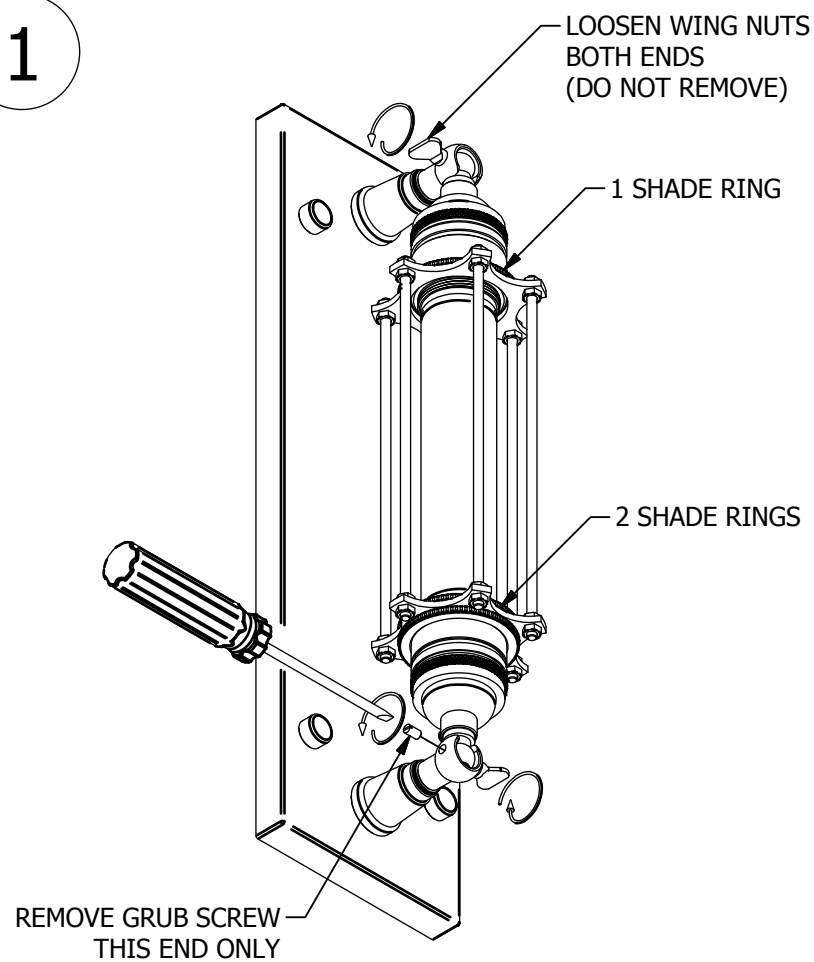

Figure 1.
Note, there is no need to completely remove the wing nuts. (Figure 1.)
- 3) Using a small screwdriver, remove (only) the grub screw next to the end of the cage with the two shade rings fitted. (Figure 1.)